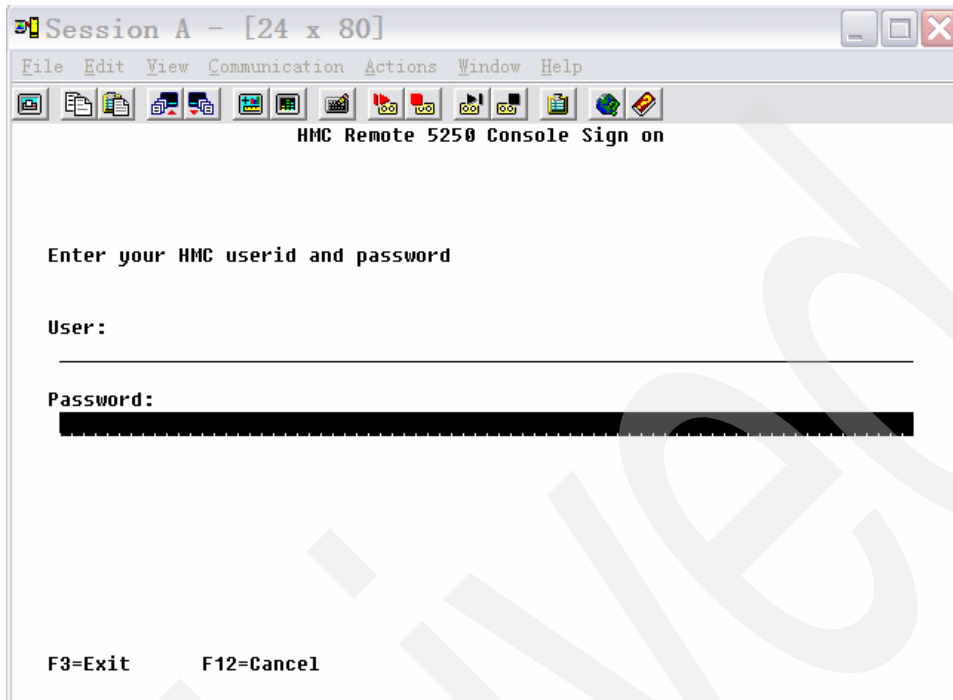

Figure 2-7 Remote 5250 console - HMC user ID and password
4. When the window in Figure 2-7 prompts you, type the correct HMC user ID and password, then press Enter.